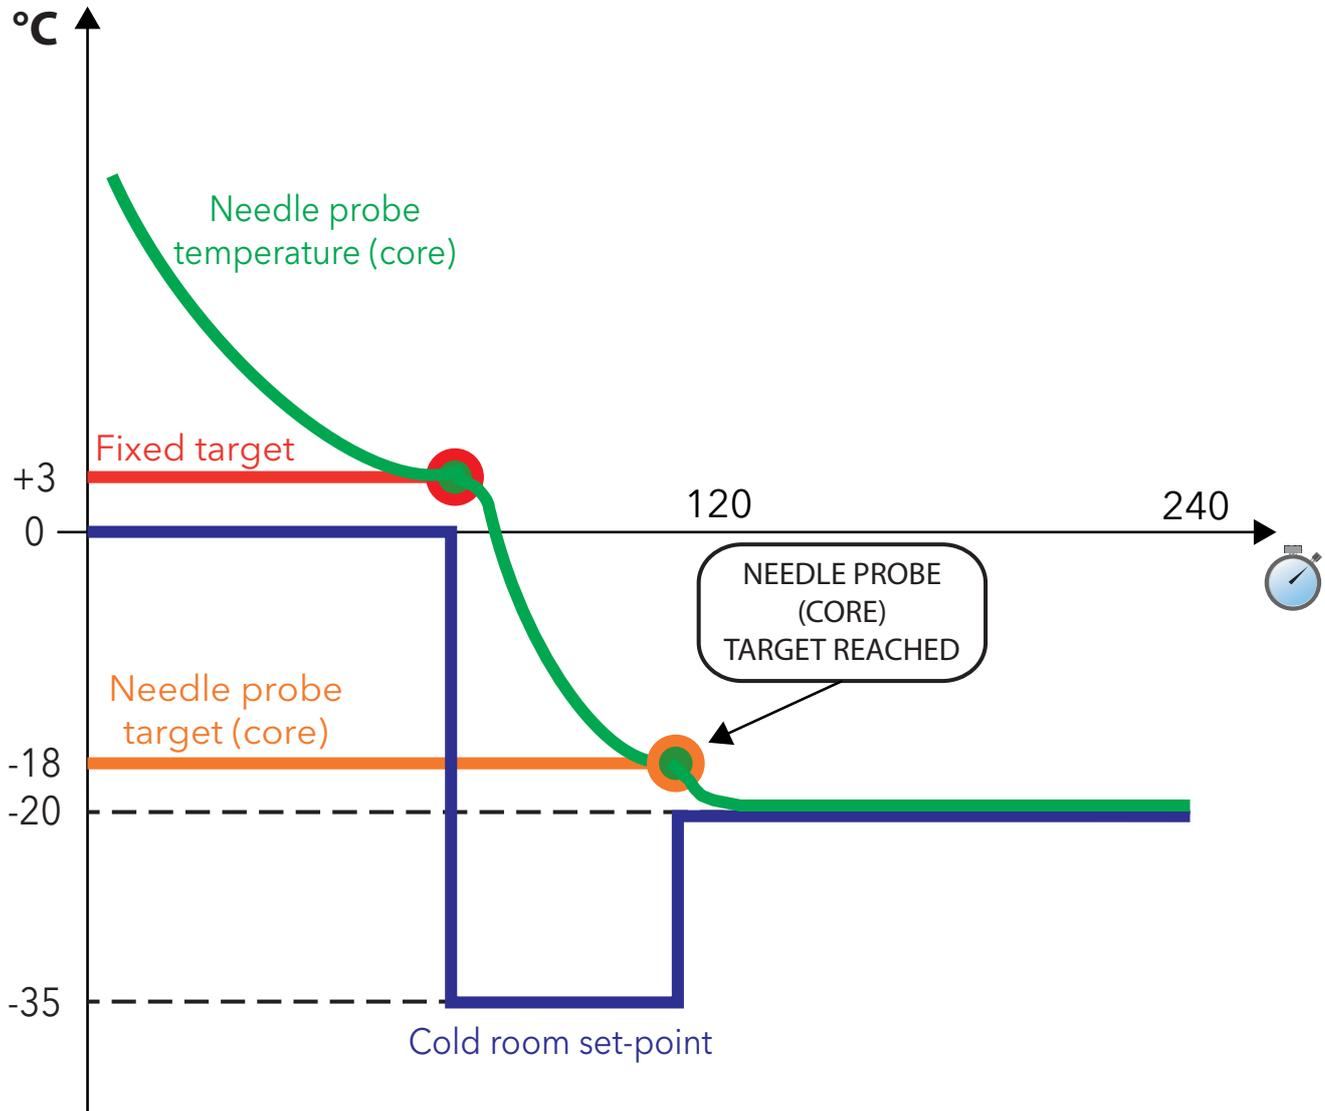

Fig. 16. NEGATIVE program with SOFT blast chill mode
- soft blast chill mode (**Fig. 16 on page 36**);
NOTE: The numeric values shown in **Fig. 16 on page 36** are the default values.